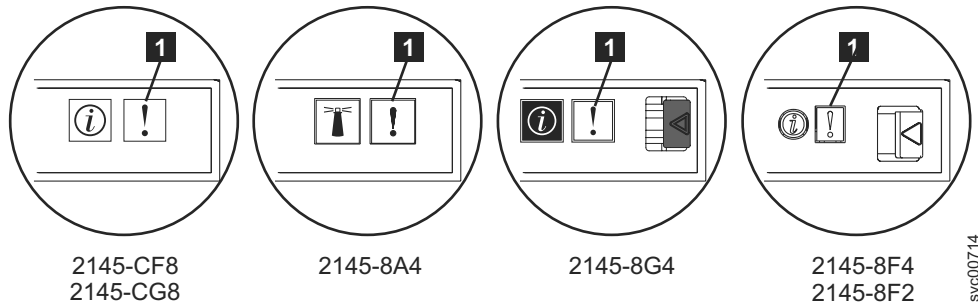

Figure 75. Error LED on the SAN Volume Controller models
**Is the operator-information panel error LED **1** that you see in Figure 75 on page 234 illuminated or flashing?**